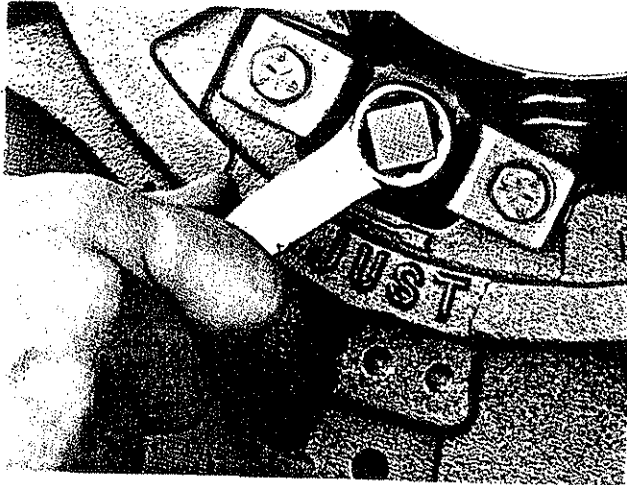

FIGURE 8
6.4.1 INSERT A 5/8 INCH SOCKET OR BOXED END WRENCH THROUGH THE INSPECTION HOLE AND DEPRESS THE HEX HEADED BOLT, KEEPING THE WRENCH ON THE BOLT. (REFER TO FIGURE 8)